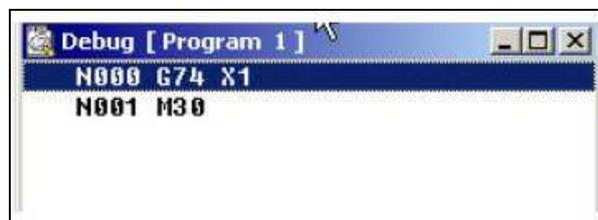

Fig. 3.1. Debug window
- After a short loading time, **Program 1** is open (Fig. 3.1).